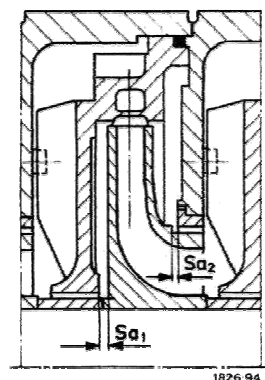

Figure 35 – Total axial clearance
6. Insert the diffuser (171.1) in the stage casing (108). Mount the stage casing on the suction casing (106). Mount the stage casings in the correct sequence.
8. After mounting each stage check the overall axial clearance  $Sa1 + Sa2$  of the impeller (min. 5 mm) (fig. 35).